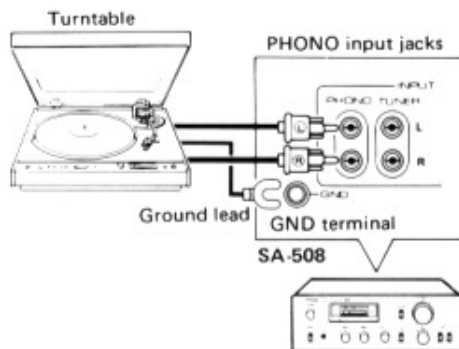

Fig. 3
**TURNTABLE CONNECTIONS (Fig. 3)**